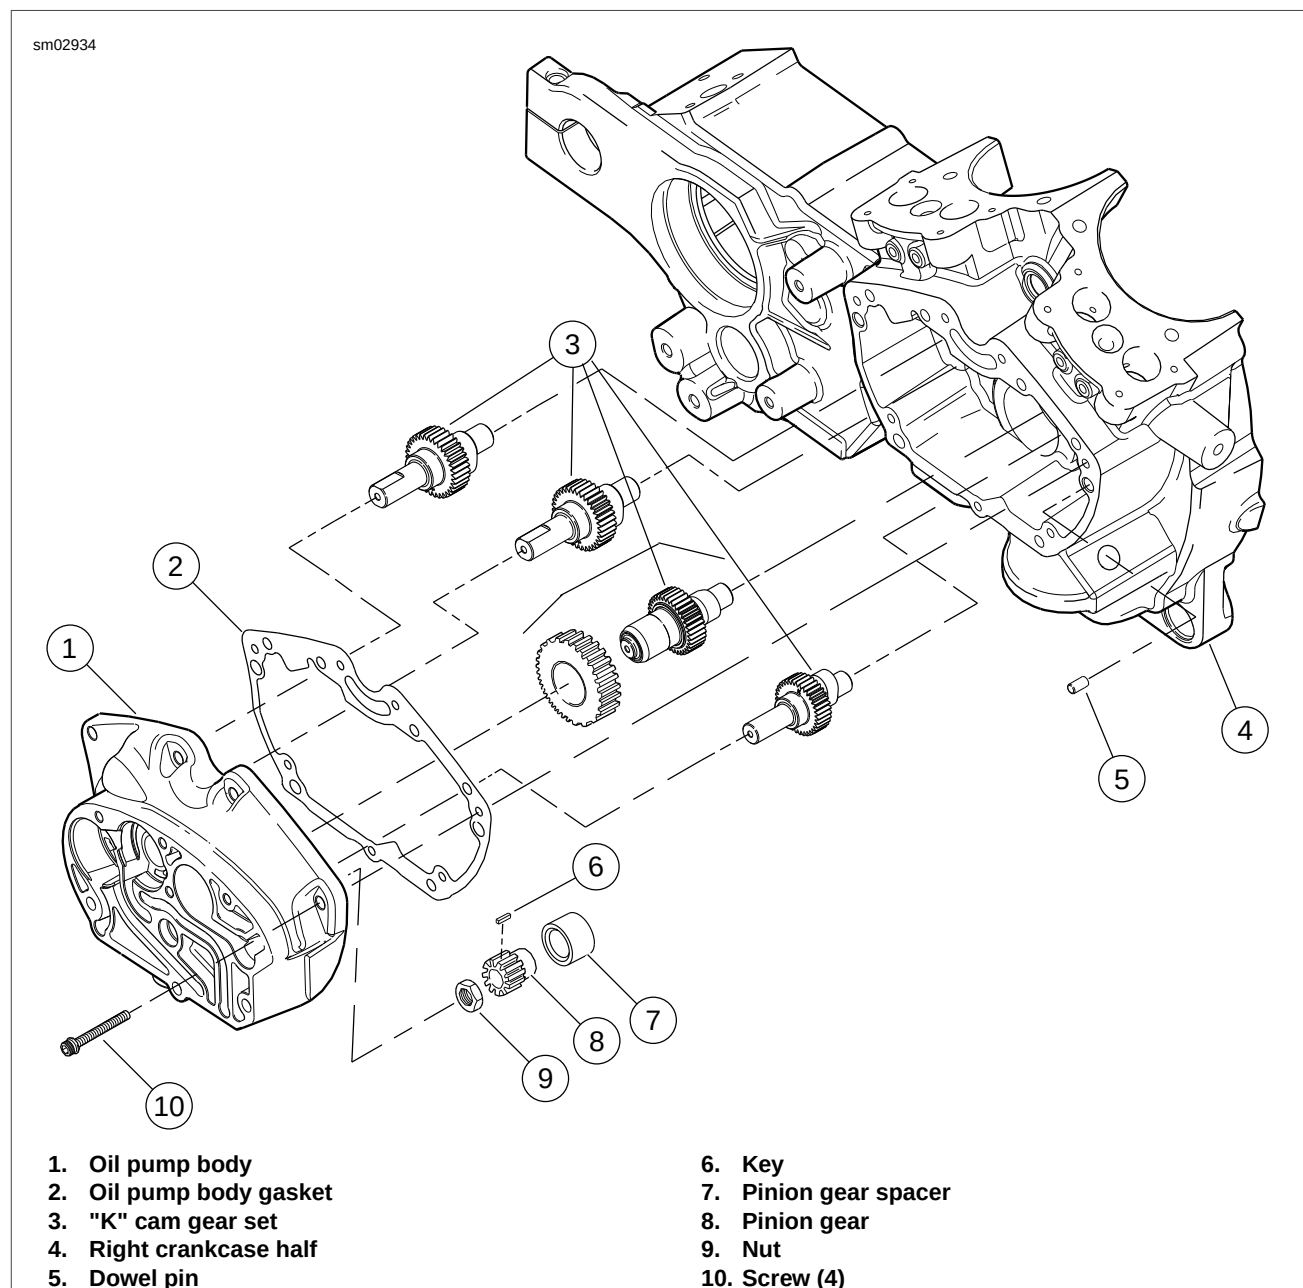

Figure 3-110. Oil Pump Body and Cam Assembly
9. See Figure 3-110 Remove pinion nut (9). Slide pinion gear (8) and pinion gear spacer (7) off pinion shaft.
2. See Figure 3-110. Install pinion nut (6).
3. See Figure 3-110. Liberally apply engine oil to bores, shafts, and gears. Install all cam gears into bores of right crankcase half. Make sure to properly align timing marks (7, 8) of cam gears and pinion gear. See Figure 3-110
4. See Figure 3-110. Install a **new** oil pump body gasket (2) on crankcase.